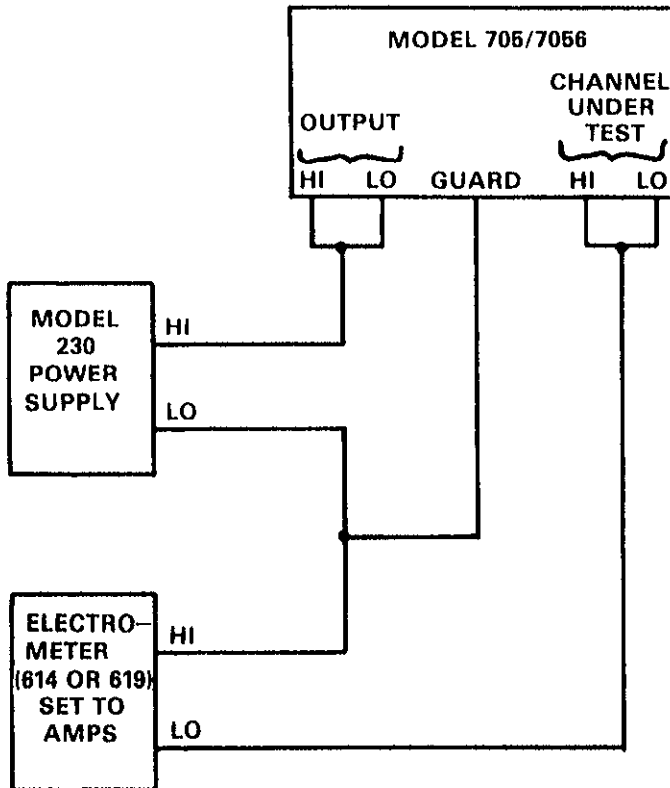

Figure 8. Channel Isolation Test Set Up
- A. This test measures the channel isolation which is the isolation between channels. Set up the circuit shown in Figure 8.